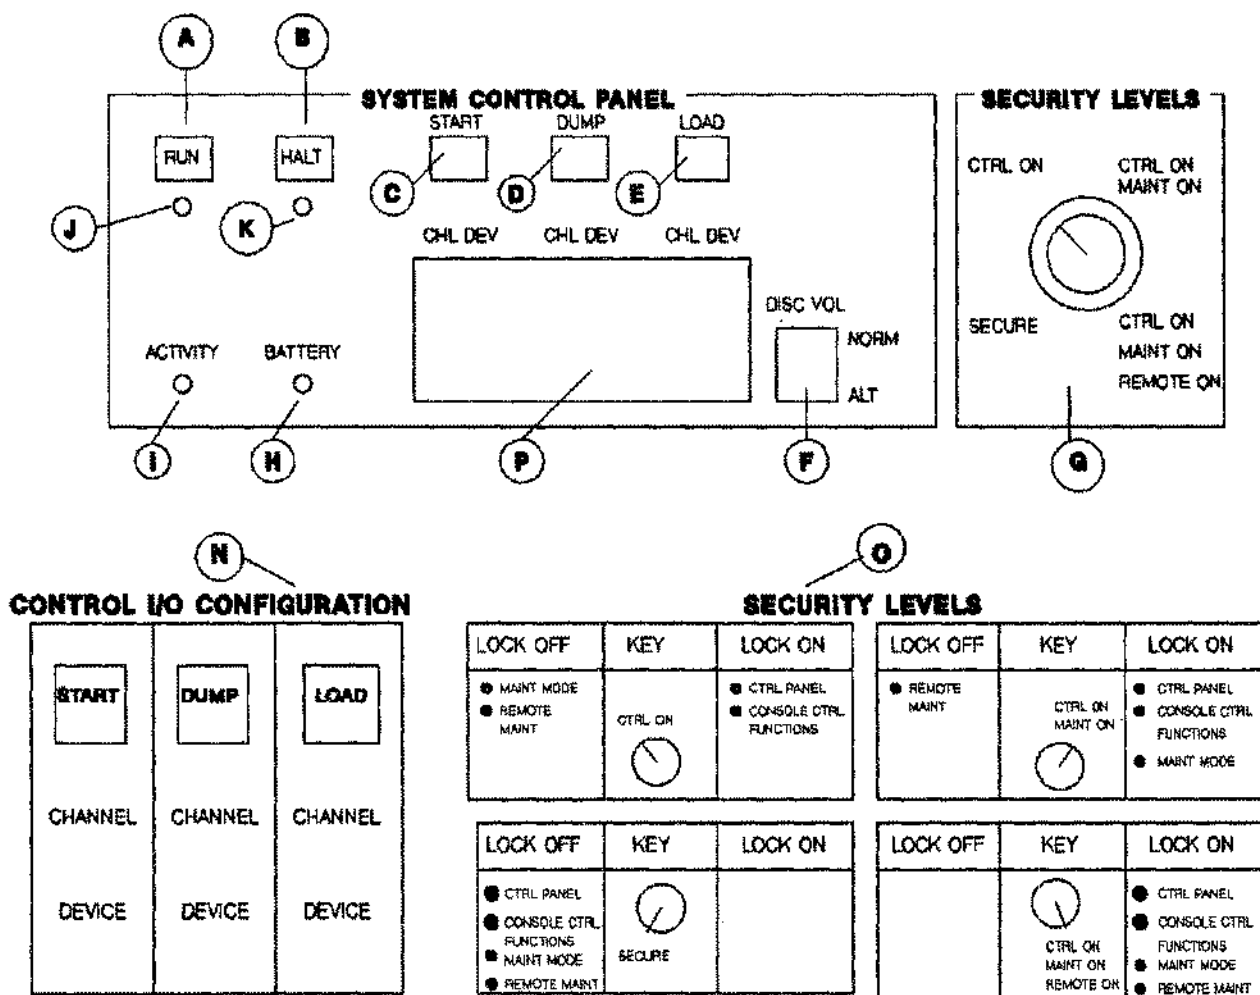

Figure 11-2. Series 39/40/42 System Control Panel Switch/Indicator Function
HARDWARE RELATED CONTROLS. The hardware related controls are the RUN and HALT switches. See Figure 11-2 for an illustration of each of the System Control Panel's switches and indicator lights.
- (C) **START** Pressing this switch initiates either a COOLSTART or a WARMSTART of the system. The CHL and DEV address are set in the thumbwheel switches directly below the START switch (Figure 11-2.)
- (D) **DUMP** Pressing this switch initiates a dump of the system's memory to a serial disc, cartridge tape, or magnetic tape. The CHL and DEV address of the system disc are set in the thumbwheel switches below the DUMP switch.
- (E) **LOAD** Pressing this switch initiates a cold load from the DEV and CHL address set in the thumbwheel switches directly below the LOAD switch. The COLDSTART, UPDATE, and RELOAD operations are begun with this switch.
- (F) **DISC VOL** This switch selects the NORMAL or ALTERNATE disc volume. The switch should always be in the NORM position.
The three pairs of thumbwheel switches located on the front panel, correspond with the **START**, **DUMP**, and **LOAD** functions of the machine. Each pair contains a hardware channel number (**CHL**) and an **HP-IB** device (**DEV**) address setting for the corresponding **START**, **DUMP**, and **LOAD** devices. See Figures 11-2(P) and 11-5(R). These switches are initially set by your Hewlett-Packard Customer Engineer when your system is installed. Although it is unlikely that you will need to change these settings, the following discussion and conversion table are provided so that, in the event of a major reconfiguration of your system, or the switches being accidentally changed, you can reset them.